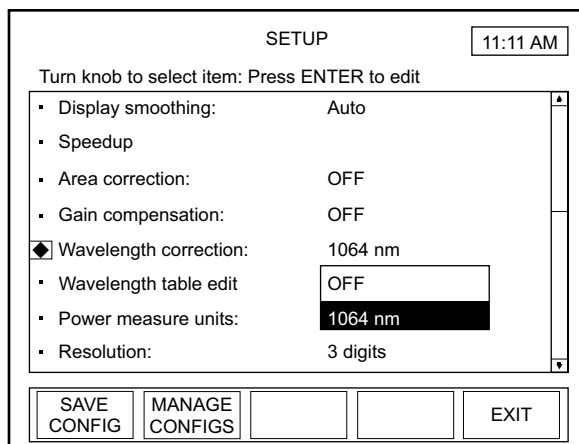

Figure 4-35. SETUP: Wavelength Correction
2. Press the ENTER/SET button to display a dropdown list of available wavelengths (similar to the list shown in Figure 4-35).